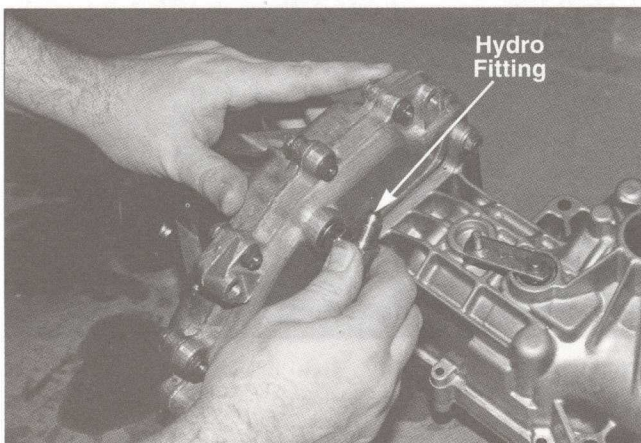

FIGURE 35.
35. Install the hydro fitting by backing off the nut so the washer is loose. Screw the fitting into the housing part way, leaving it loose so that you can align the fitting with the frame and other parts installed on the tractor. During installation make sure the seats are clean and the "O" rings are in good condition. See figure 35.